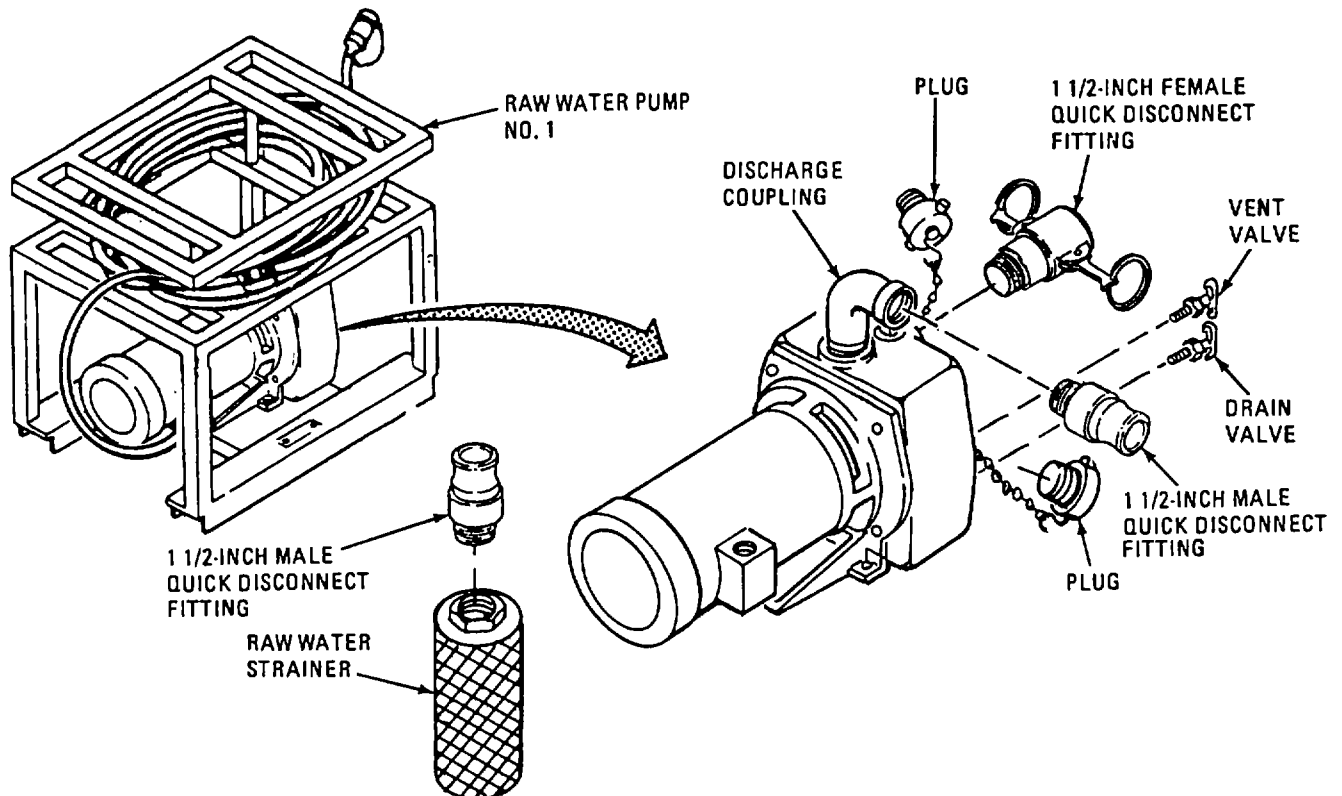

Figure 2-26. Raw Water Pump No. 1 Quick Disconnect Fittings.
- e. Install Raw Water Pump No. 1 Quick Disconnect and Strainer Fittings. Refer to figure 2-26.